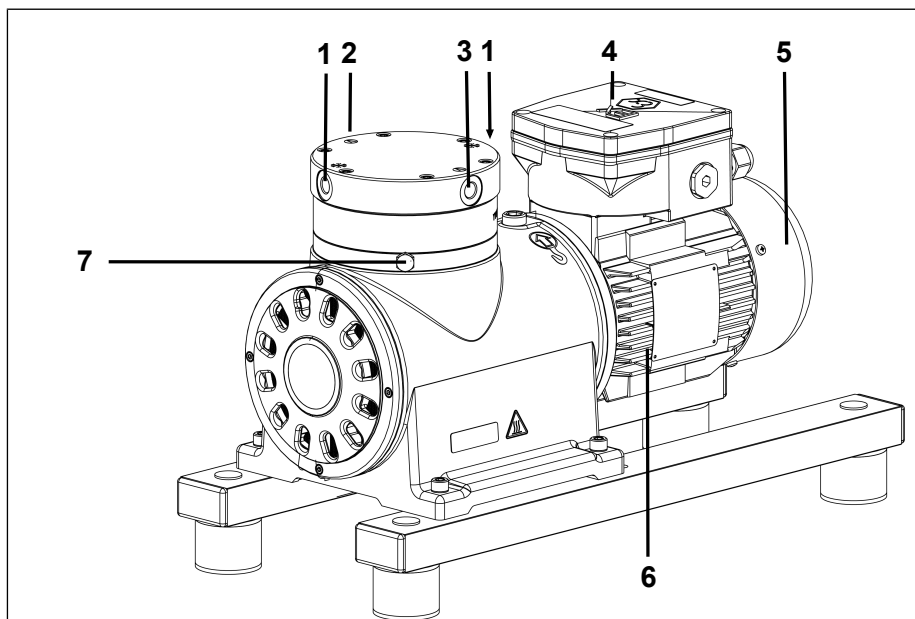

Fig.1 Design N630.12 EX
2. Fasten the carrying strap between compressor housing and motor (Fig. 1, see Fig. 6).